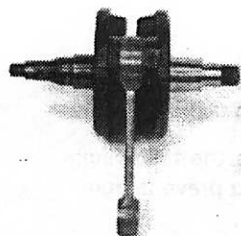

Figure 39
The following table lists crankshaft (Figure 39) service specifications.
4. Inspect the crankshaft (Figure 39) for: